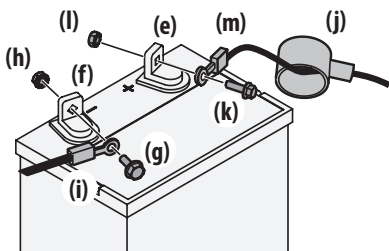

Figure 23
NOTE: The positive battery terminal is marked POS. (+) (e). The negative battery terminal is marked NEG. (-) (f) (Figure 23).
- Remove the hex cap screw (g) and sems nut (h) securing the black negative battery lead (i) to the negative battery post (marked NEG) (f). Move the cable away from the negative battery post (Figure 23).
- Remove the red boot (j), hex cap screw (k) and sems nut (l) securing the red positive battery lead (m) to the positive battery post (marked POS) (e) (Figure 23).